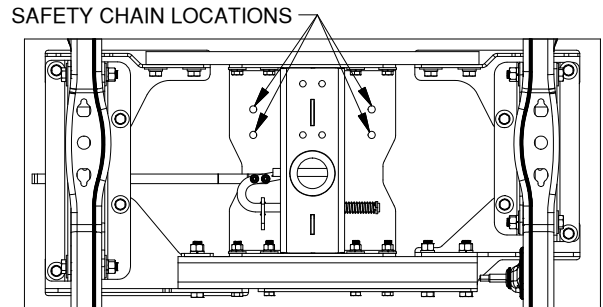

Figure F1: Bottom of truck bed looking up at hitch installation.
1. **Drill Holes.** From under the bed, using a drill and small drill bit, drill a pilot hole into the bed in 4 places through the safety holes as shown in Figure F1. These holes must be perpendicular to the surface of the bed. Examine the holes from inside of the truck bed. Each set of holes should be 2" apart and each hole of a set should be the same distance from the nearest bed rib. With the pilot holes in the right position, enlarge the holes to 1/2"